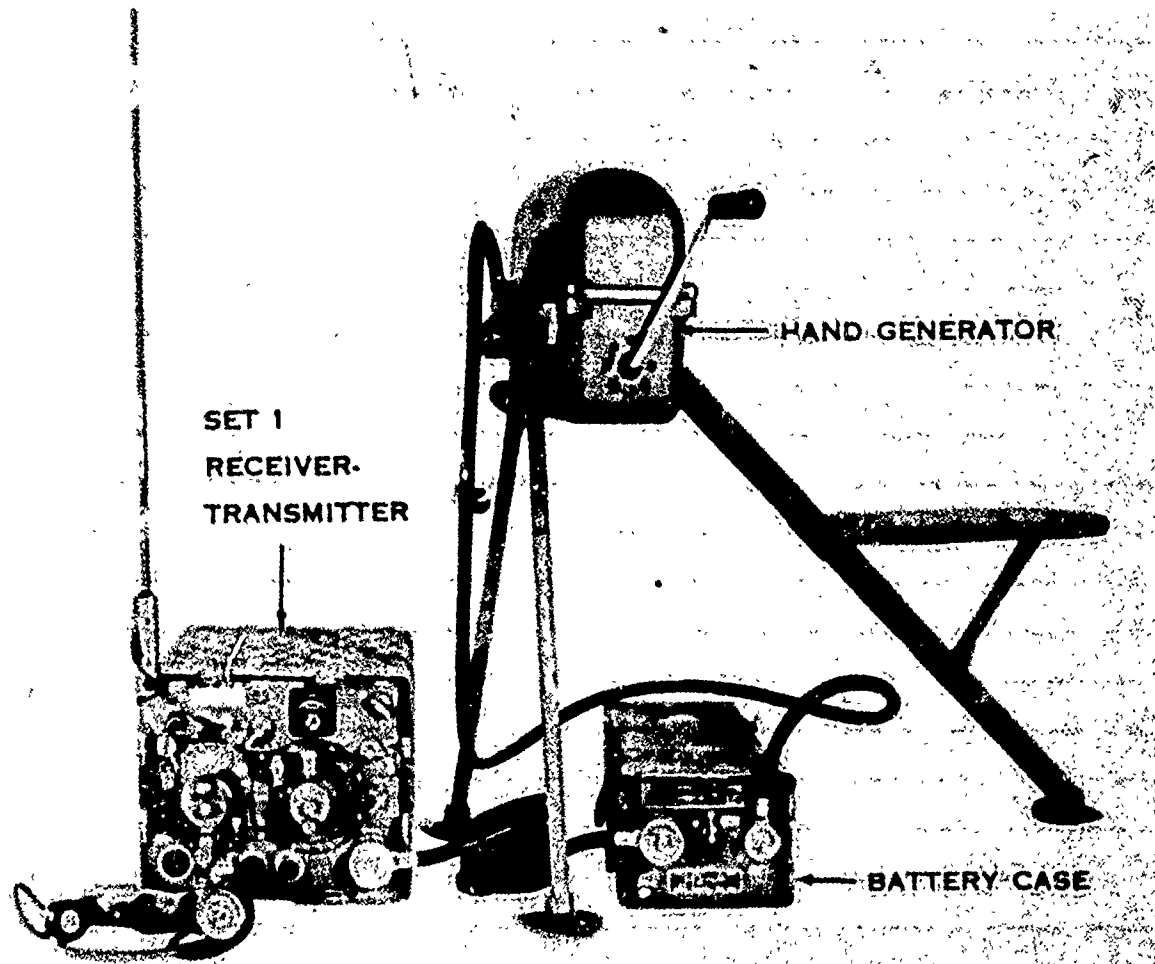

Figure 4-37. Field Operation of Set 1 with Modification Kit, MX-898/GR.
c. The modification kit as shown in figure 4-37 is used to provide temporary field operation of Set 1 when it is removed from the vehicle.
(1) Field operation of Set 1 with the battery case and the hand generator. The batteries contained in the battery case (one BA-419 and five BA-403) provide the power required for the receiver portion of Set 1. To transmit, the hand generator must be turned during the entire transmission.
(2) Field operation of Set 1 with the hand generator. This type of operation requires that the hand generator be turned at all times when receiving or transmitting.
(3) Field operation of Set 2 with the battery case. The batteries contained in the battery case provide sufficient power for both receiving and transmitting. The hand generator is never used to power Set 2.